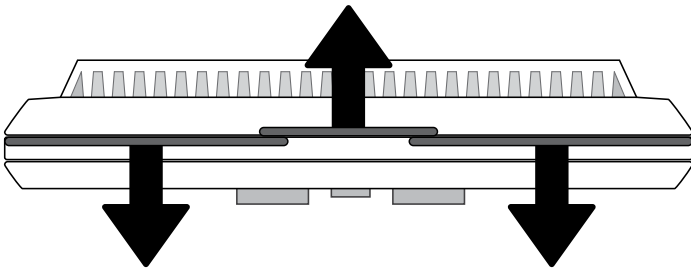

Figure 26.1
1. Separate the body of the thermostat from the mounting plate by gently pulling the two pieces apart (**Figure 26.1**)